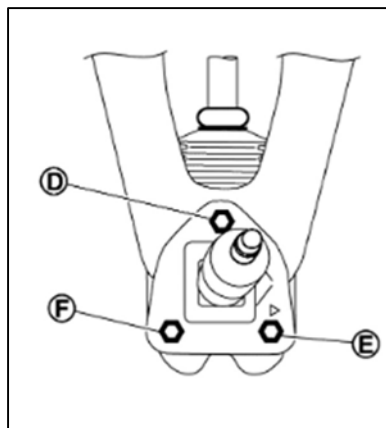

Figure 116
114. Loosen the (3) shifter guide plate bolts two full turns. (Figure 116)